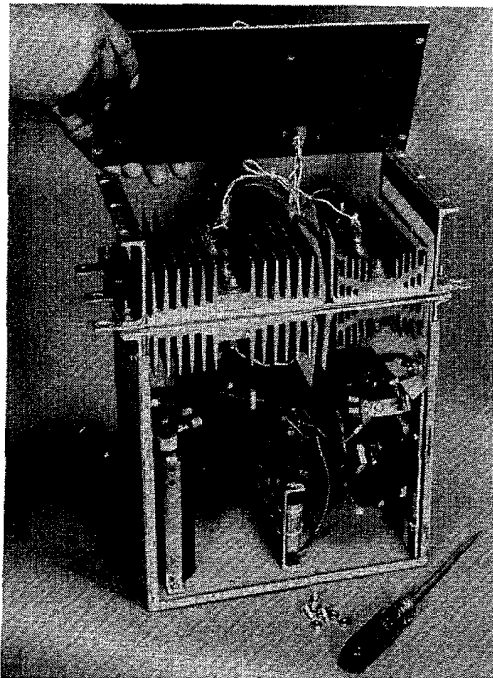

FIGURE 23
4. Remove four (4) machine screws and nuts that secure the front red plastic insulation cover to the inverter phase module.
5. Fold back the cover, thereby, exposing the stud mounted SCR heatsinks. The remaining wire harnesses should support the front insulation cover while removing and replacing the defective stud mounted SCR cell. See Figure 23.